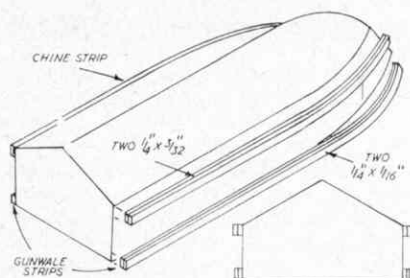

Fig. 1
Before fitting out the model, however, there is still some work to do on the hull. The hull has already been prepared virtually ready for painting if all the stages described in part (1) have been completed. The next thing is to fit the chine strips and gunwale strips, as shown in Fig. 1. Two strips are used in each case since these can readily be bent to the curve of the hull where a single solid strip will probably break. Cement in place securely and hold with pins until dry. When set, lightly round off the edges of the gunwale strips but round off the uppermost side of the chine strips to a complete quarter-circle section.